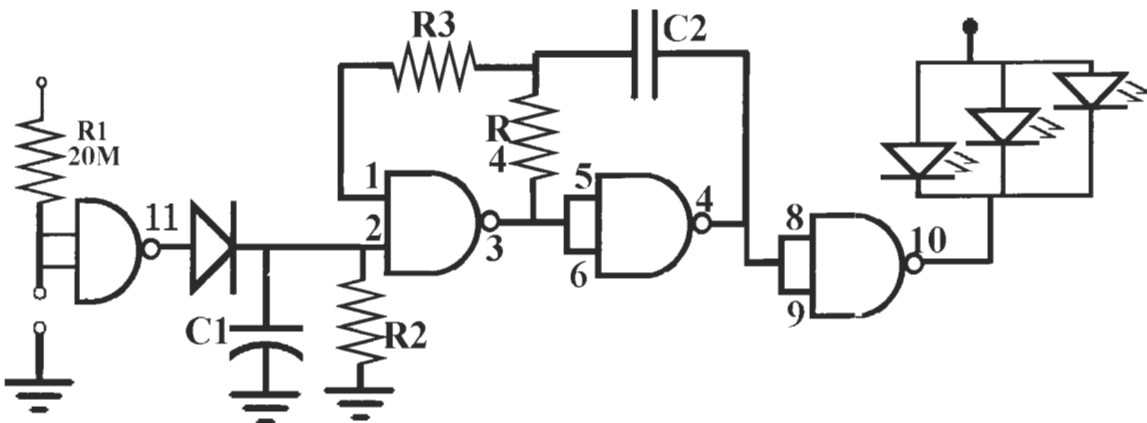

Figure L30-40
Even though this is a basic application, it is worth mentioning that as a child's toy, it is still a favorite. Kiss the bear on his nose and his heart throbs. A picture is shown in Figure L30-39. The related schematic is displayed in Figure L30-40 (Table L30-10).
**Table L30-10** Related to schematic displayed in Figure L30-40